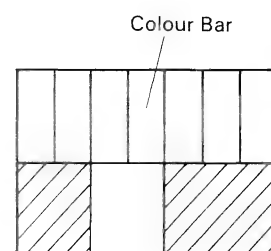

Figure 2-11
3. While alternating between the EE and STROBE modes, adjust C2804 (Write Phase Adj.) and C2810 (Read Phase Adj.) so that the colour bar stops at the right and left position and shift is eliminated. (Fig. 2-11)